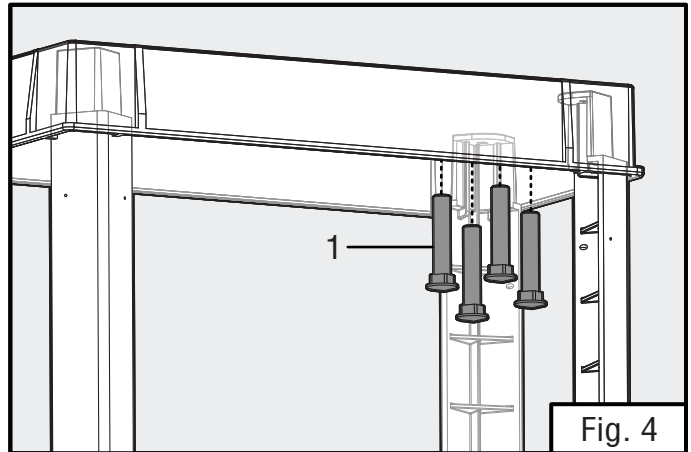
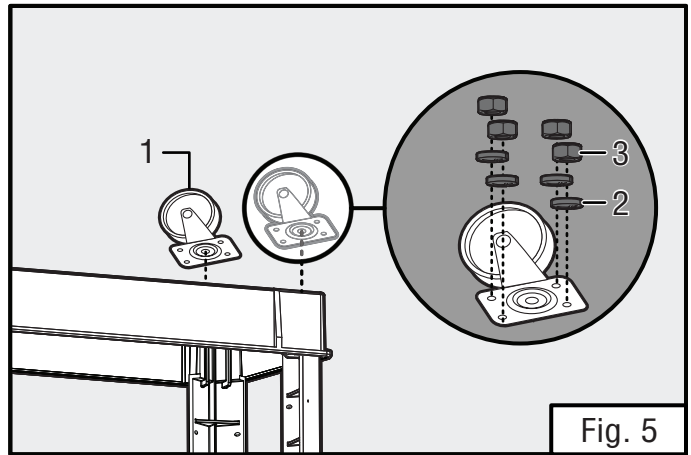

Fig. 4
Fig. 5
6. Insert the carriage bolts (Fig. 4 - 1) up through the leg tabs and the shelf tray. Attach the casters (Fig. 5 - 1) by first hand tightening the washers (Fig. 5 - 2) and nuts (Fig. 5 - 3). Once all four casters are in place, go back and use an adjustable wrench to make sure all nuts and bolts are fully tightened and secure.